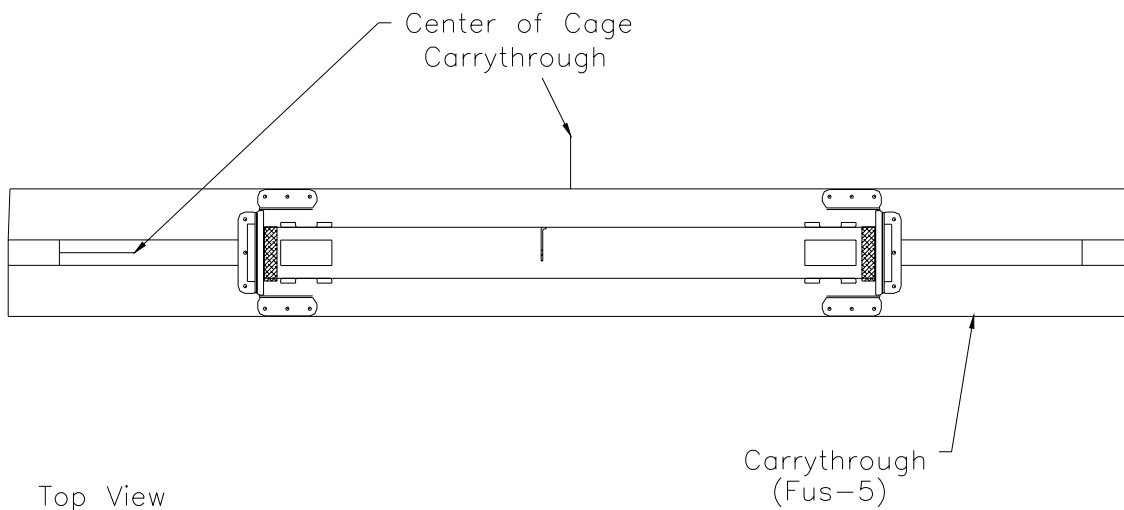

Figure 20.3.10
13) Center assembly on the Carrythroughs (FUS-5). Figure 20.3.10.